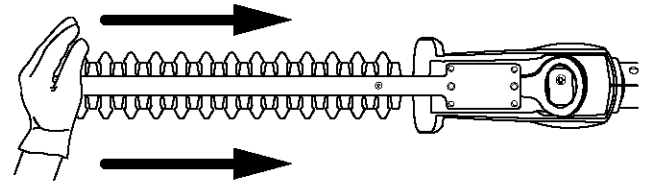

Fig. 10
5. Push the red end of the blade bar towards the cams. This will loosen the blade plate so that it can be removed easily from the cams (Fig. 10).